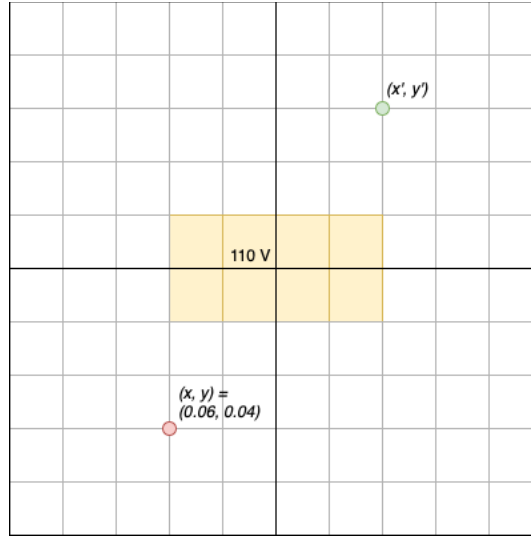

Figure 2 - Illustration showing that $(x, y) = (0.06, 0.04)$ has the equivalent point $(x', y') = (0.04, 0.06)$ in the upper-right quadrant
2. (b) The file mentioned in 2(a) was provided to the SIMPLE2D_M.m program, and the output data is included in Appendix 1.3 as *Simple2D Output* (page 13). Note that point $(x, y) = (0.06, 0.04)$ lies in the lower right quadrant of the cross-section of the coaxial cable. Since we are considering only the upper right quadrant here, this point is equivalent to $(x', y') = (0.04, 0.06)$ (Figure 2). From Appendix 1.3 we can see the potential at $(x, y) = (0.06, 0.04)$ (i.e. $(x', y') = (0.04, 0.06)$) was found to be **40.526 V**.